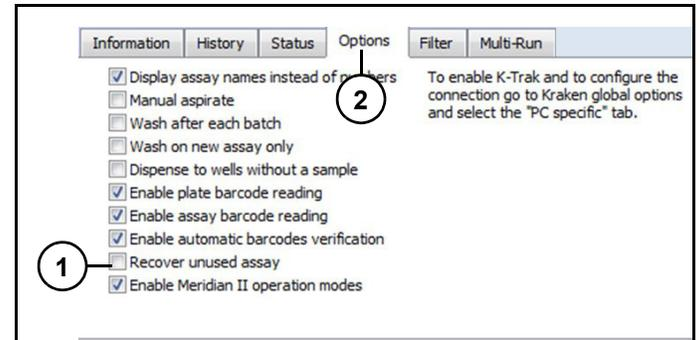

Figure 38
Note: It is possible to recover small volume of reagent remaining in dispense head at end of run. Check "Recover unused assay" (1) in Options (2) in Kraken interface before starting run. (Figure 38)